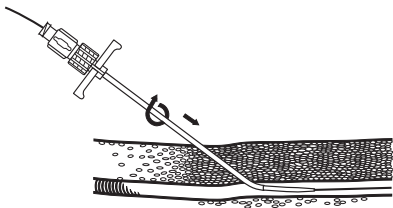

Fig. 1
8. Introduce the Peel-Away introducer assembly (sheath and dilator) over the wire guide. With a twisting motion, advance the assembly into the vessel. **(Fig. 1)**